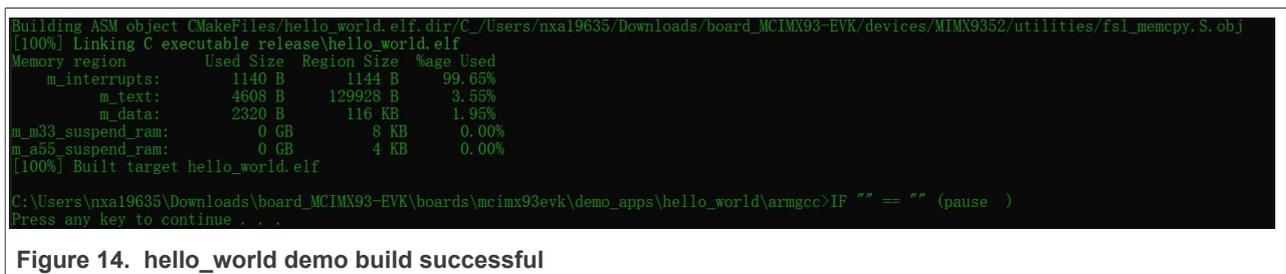

Figure 14. hello_world demo build successful
3. Type **build_debug.bat** on the command line or double click on the `build_debug.bat` file in Windows Explorer to perform the build. The output is as shown in Figure 14.